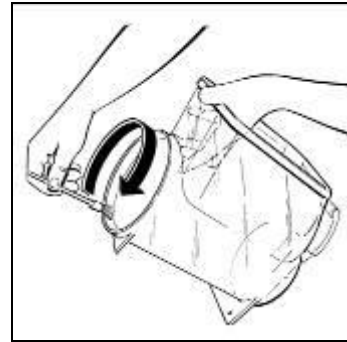

Fig. 15
- **L**ubricate the rear of the tank where it meets with the seal to facilitate the reassembling procedures (see fig.15);